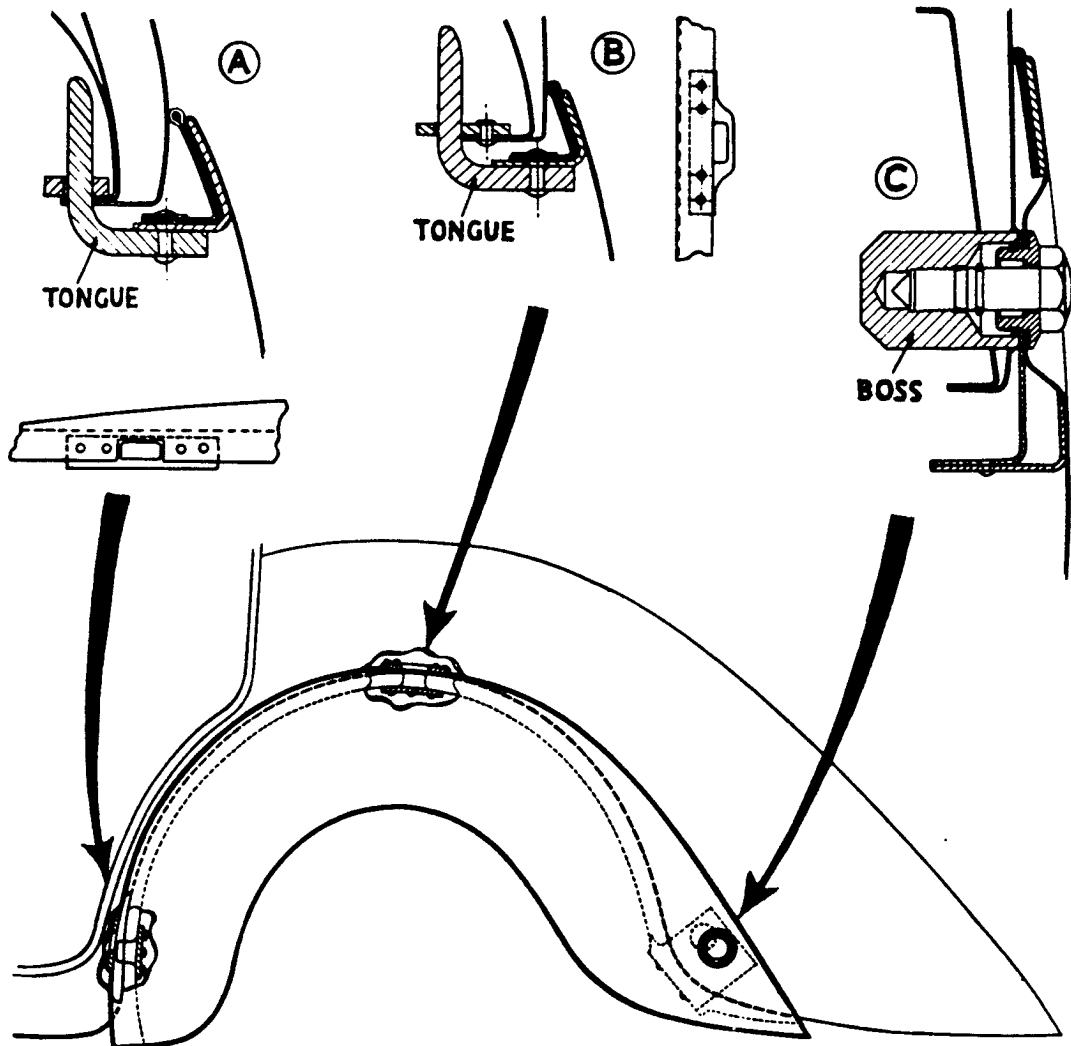

FIG. 2.
When fitted, the wing fairing is secured at three points as shown in Fig. 2. Items 'A' and 'B' are tongue and slot fittings, tongues being fitted
- (iv) Remove the fairing. Rivet the slotted striker plates in position on the inside wing lip - centres of slots to correspond with tongue centres. The rectangular striker plate is to be fitted in the forward position ('A' Fig.2) and as far inwards as the contour of the inner skin of the wing will allow.